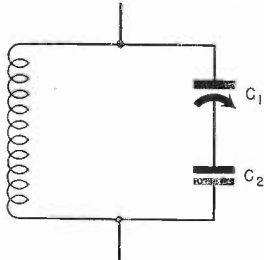

Fig. 4
It may be desirable, however, to restrict the maximum capacitance of C without greatly affecting the minimum, in order to achieve a desired frequency range, and in such a case an auxiliary capacitance (padder) is connected in series with C (see Figure 4) and the relations of (11) apply.